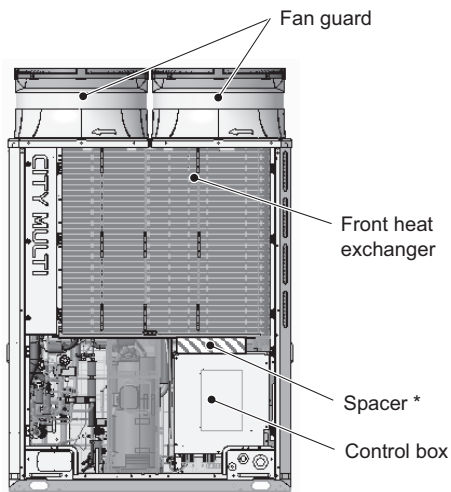

Figure 9
(11) Remove the fan guard by unscrewing the 12 screws. (See Figure 9.)
(12) Insert a spacer between the control box and the heat exchanger.
(13) Remove the cable tie that is holding the motor ASSY and the unit wiring.